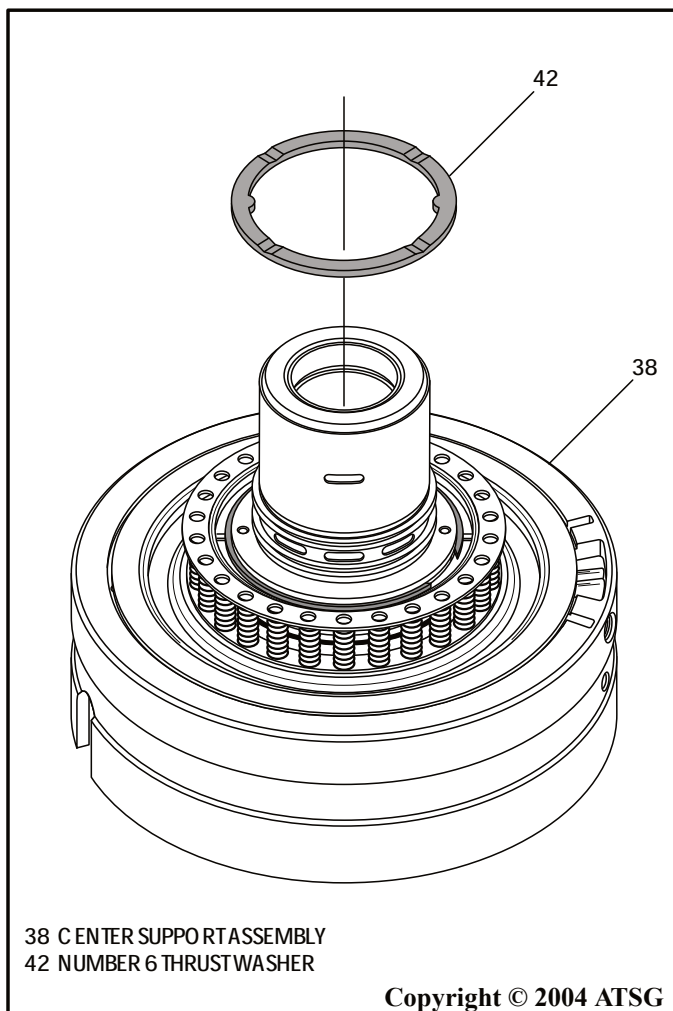

Figure 113
10. Install the number 6 thrust washer onto the center support, as shown in Figure 113, and retain with a small amount of Trans-Jel®.